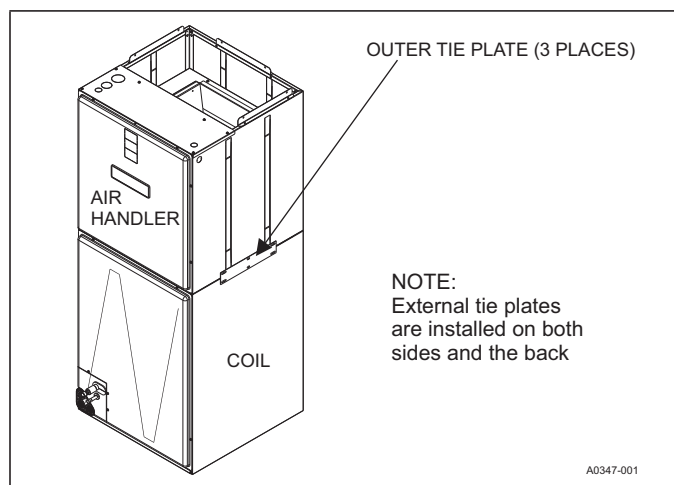

FIGURE 3: Coil and Air Handler Attachment Details
2. Attach three tie plates to external sides and back of air handler casing using screws. Refer to Figure 3.
4. Attach the three tie plates to coil casing using screws. Refer to Figure 3.